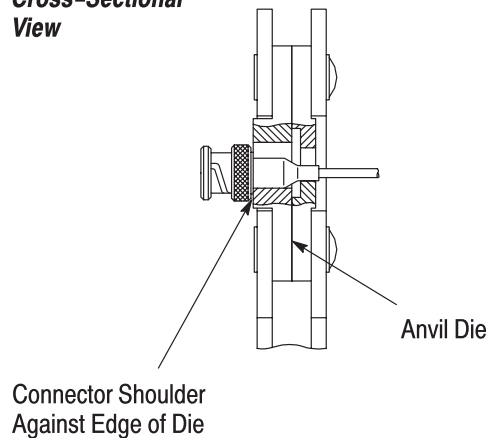

Figure 4
3. Place the ferrule in the crimping chamber on the anvil die so that the shoulder of the connector body is against the edge of the die. Refer to Figure 4.
4.2. Ferrule (Figure 4)